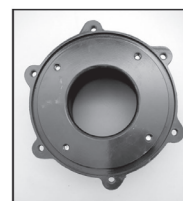

Figure 26
For horizontal discharge - Install the clamp ring (item 9) in the motor adapter so two housing bolt holes (6 holes in clamp ring) are in 12:00 and 6:00 position. See figure 26.